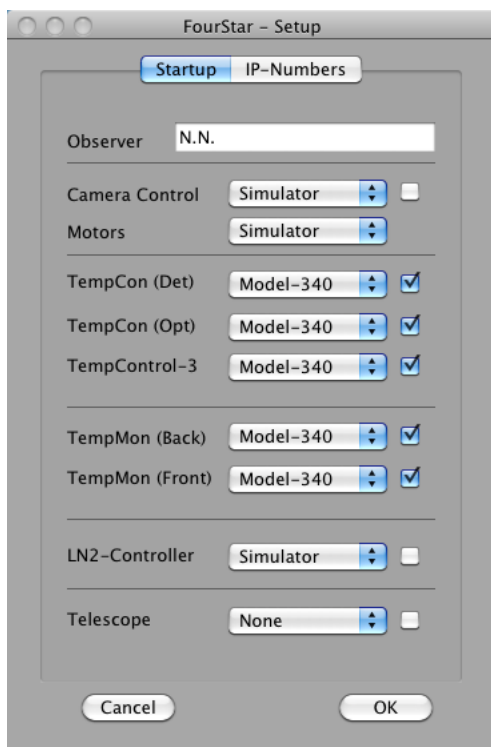

Fig. 7. Setup screen for Warmup and Bakeout. The LN2-Controller should be set for Pass-Through.
4.5 Start the FourStar software on the control Mac, selecting the functions shown in Fig 7. It should be most convenient to do this sitting in the equipment room and using the monitor in the main rack there.